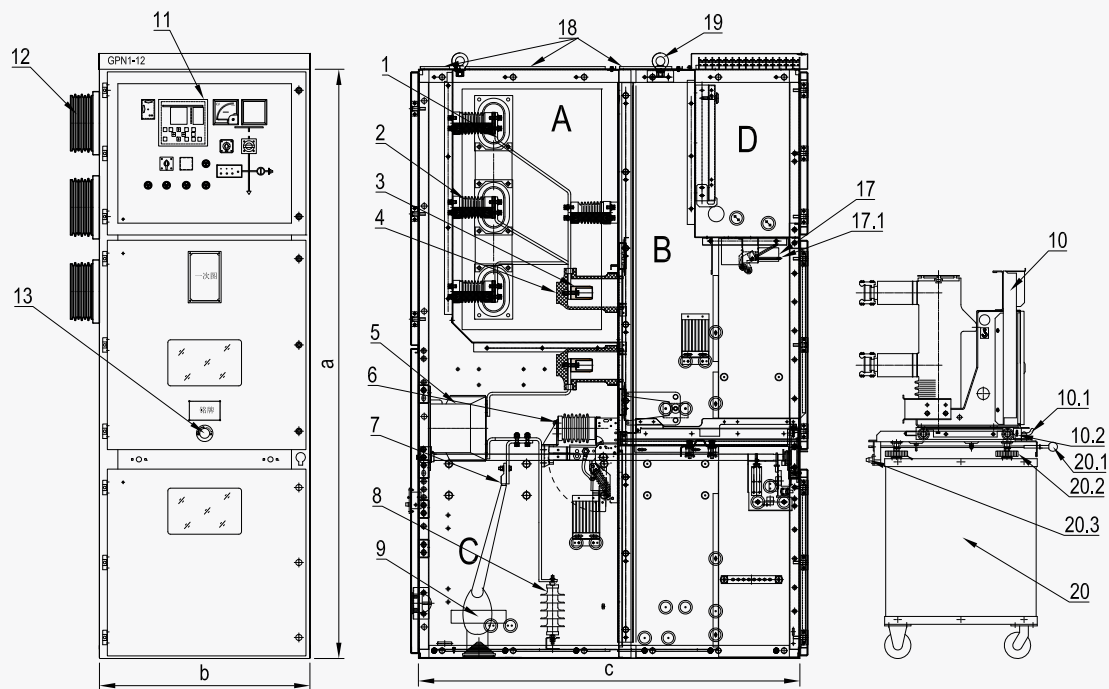

Figure 3-1 Basic structural sectional view of incoming line or outgoing line
The basic structure of switchgear panel comprises the panel itself a removing part. The panel and main components can see in figure 3-1. Incoming-line panel or outgoing-line panel are diagram of basic switchgear panel, there are other derivative diagram, for example, contact panel or metering panel.
■ VCB Vault (Figure 3-1, 3-3, 3-5, 3-6)
■ Cable compartment (Figure 3-1)
■ Low voltage compartment (Figure 3-1, 3-2)